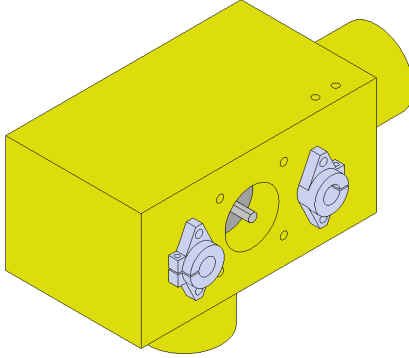

Figure 9: *Y-Axis right driver* with the NEMA23 and SHF12 supports installed.
3. Repeat the first and second step with the *Y-Axis right driver*. Mind the NEMA23 motor cables and the position of the SHF12 supports. The assembly is shown on figure 9.